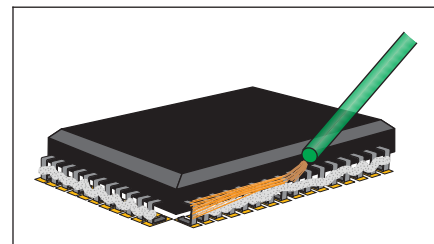

Figure 3 Apply Flux
7. Apply flux to all the leads. (See Figure 3.)